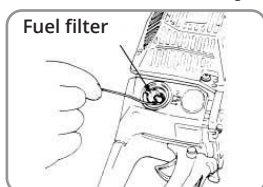

Fig. 18
- Using a wire hook, take out the filter from the filler port (Fig. 18).